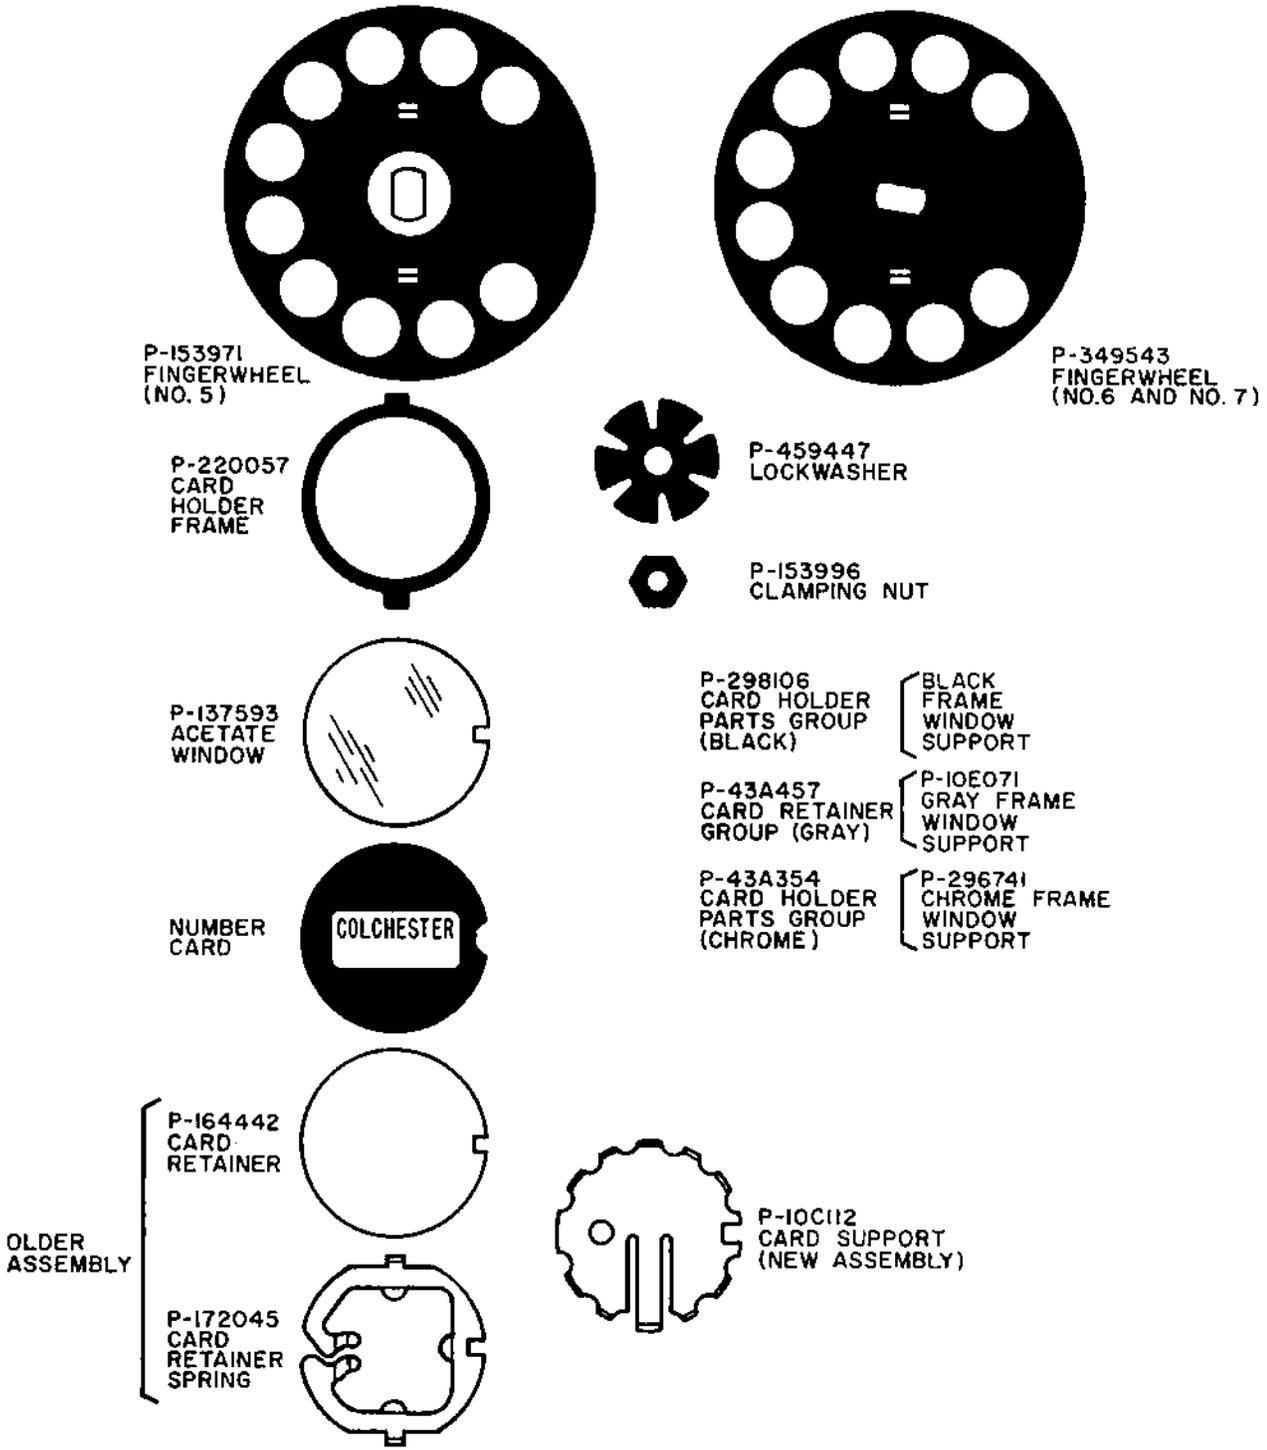

Figure 6. WECO Metal Fingerwheel Assemblies.
3.06 The WECO P-153971 fingerwheel is stamped from sheet aluminum (early production was of brass) and is a perfectly flat disc with chamfered finger holes and a center opening to accept the hub of the shaft on a Number 5 dial. The P-349543 fingerwheel is similar except for the size and orientation of this opening, which is arranged to fit a Number 6 or 7 dial. Six or seven additional parts are required for mounting and identification purposes (Figure 6).